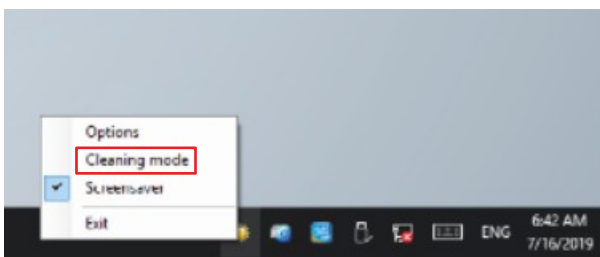

Fig. 49: CP39xx-14xx-0010_Select Cleaning Mode
3. Select the "Cleaning Mode" (see Fig. 49).